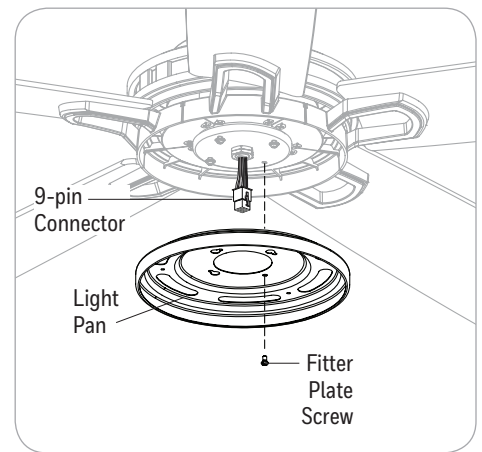

Figure 5.6
- Remove one fitter plate screw from the fitter plate and loosen, but do not remove the other three. Insert the 9-pin connector from the motor assembly through the hole in the light pan. Align the three key slots in the light pan with the loosened fitter plate screws. Place the light pan over the three screws and turn the light pan clockwise. Re-install the previously removed light pan screw, and tighten all four screws securely (Figure 5.6).